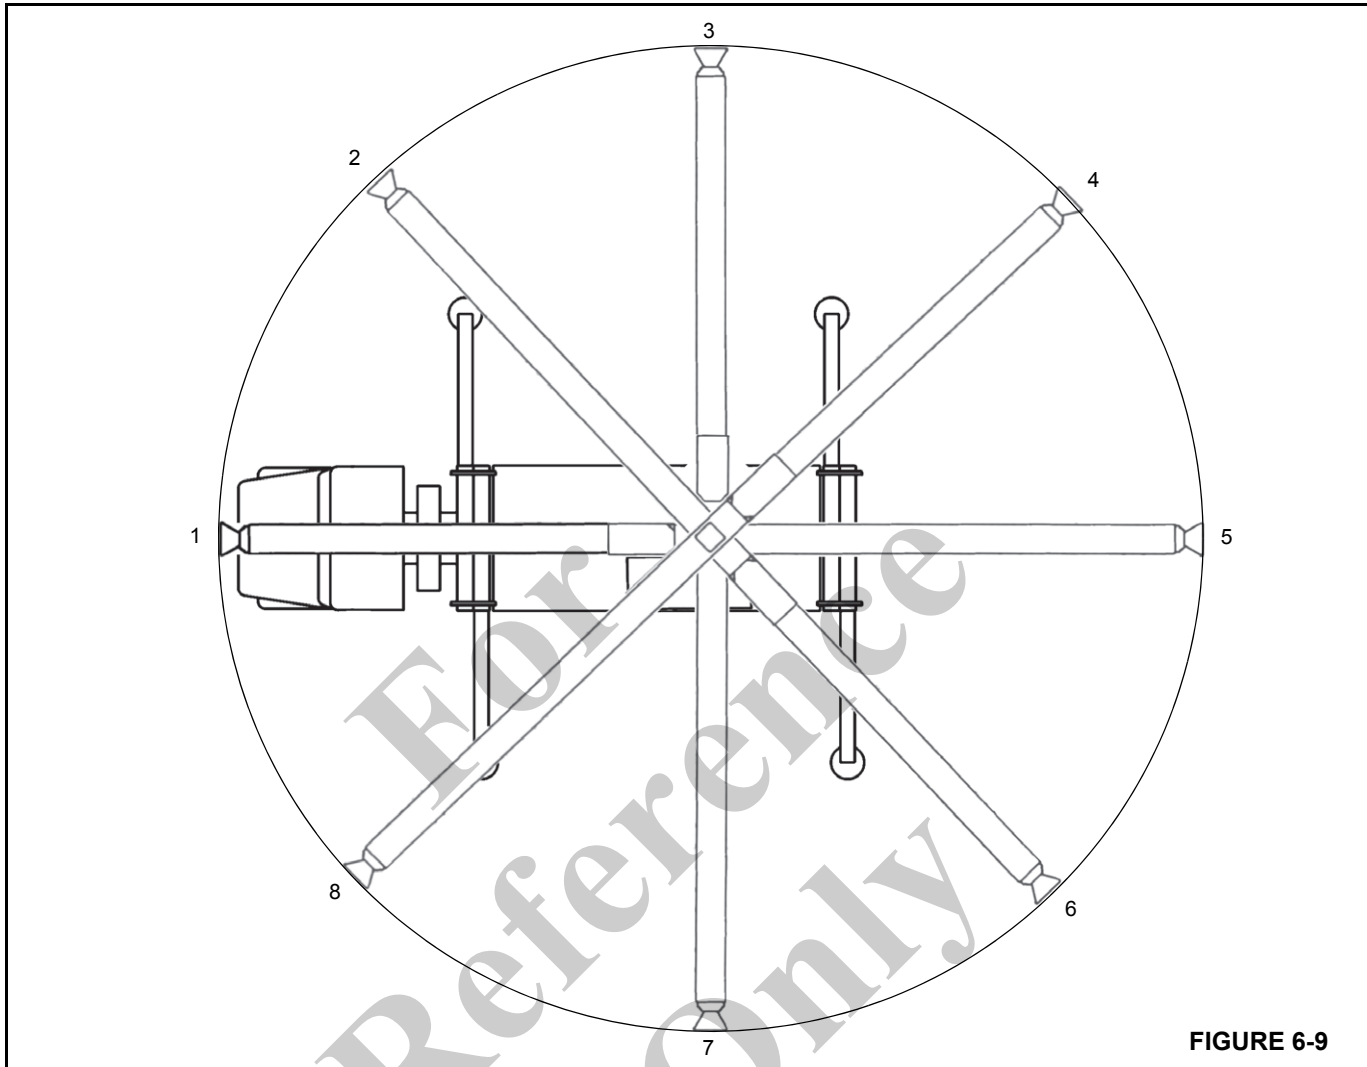

FIGURE 6-9
10. If the average is less than 0.090 inches, repeat the measurement at every 45° around the total working area of the crane (Figure 6-9).